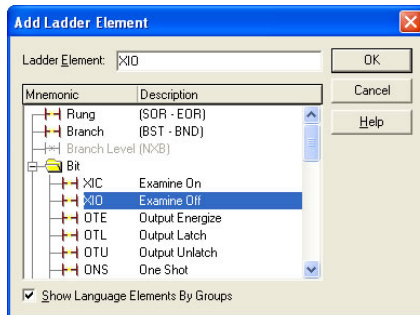

Figure 100: Adding an XIO Element
- c) Select the “XIO” element in the Bit folder. Refer to Figure 100.